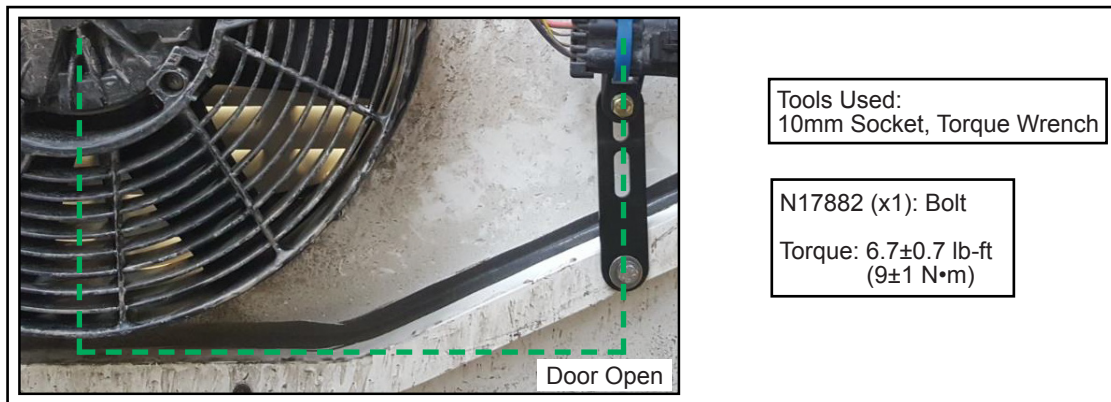

Figure 8 - Typical View of Bracket Orientation
1.15. Align the bracket along a vertical axis and torque the bracket bolt to 6.7±0.7 lb-ft (9±1 N•m) (see Figure 8).